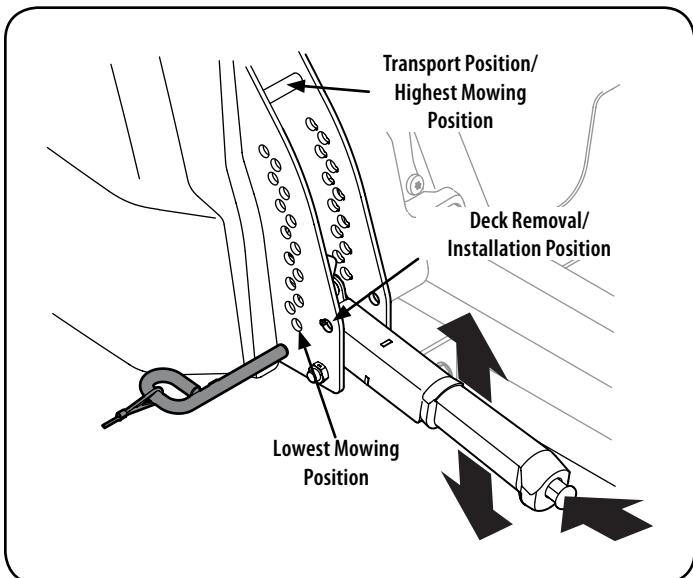

Figure 24
- a. Using the deck lift handle, raise the deck to the position that provides the most horizontal run of the belt between the deck idler pulleys and the PTO pulley on the bottom of the engine. See Figure 24.
- d. Lower the deck into the deck removal/installation position using the deck lift handle. See Figure 24.
1. Place the deck lift handle in the highest mowing position See Figure 24.